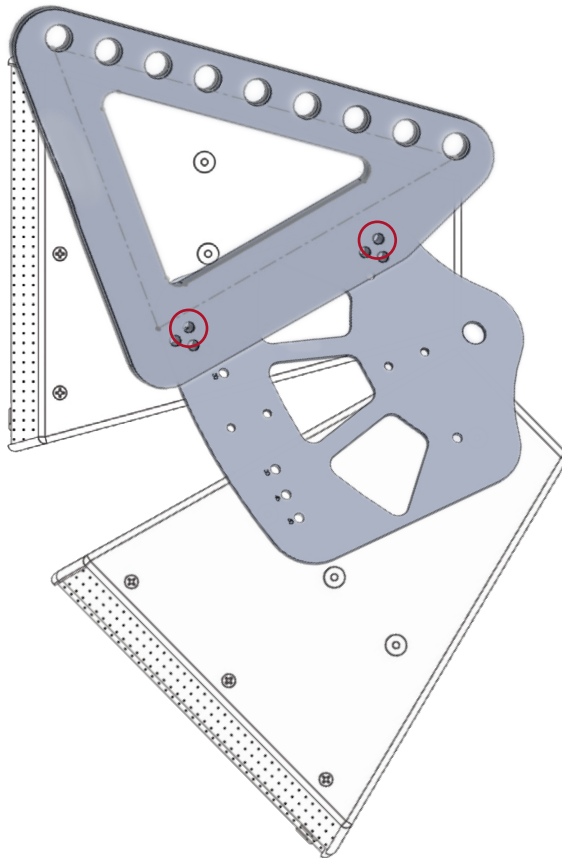

Figure 4 - Suspension & Cabinet Bracket secured
5. Secure in place using supplied hardware screws (Figure 4)